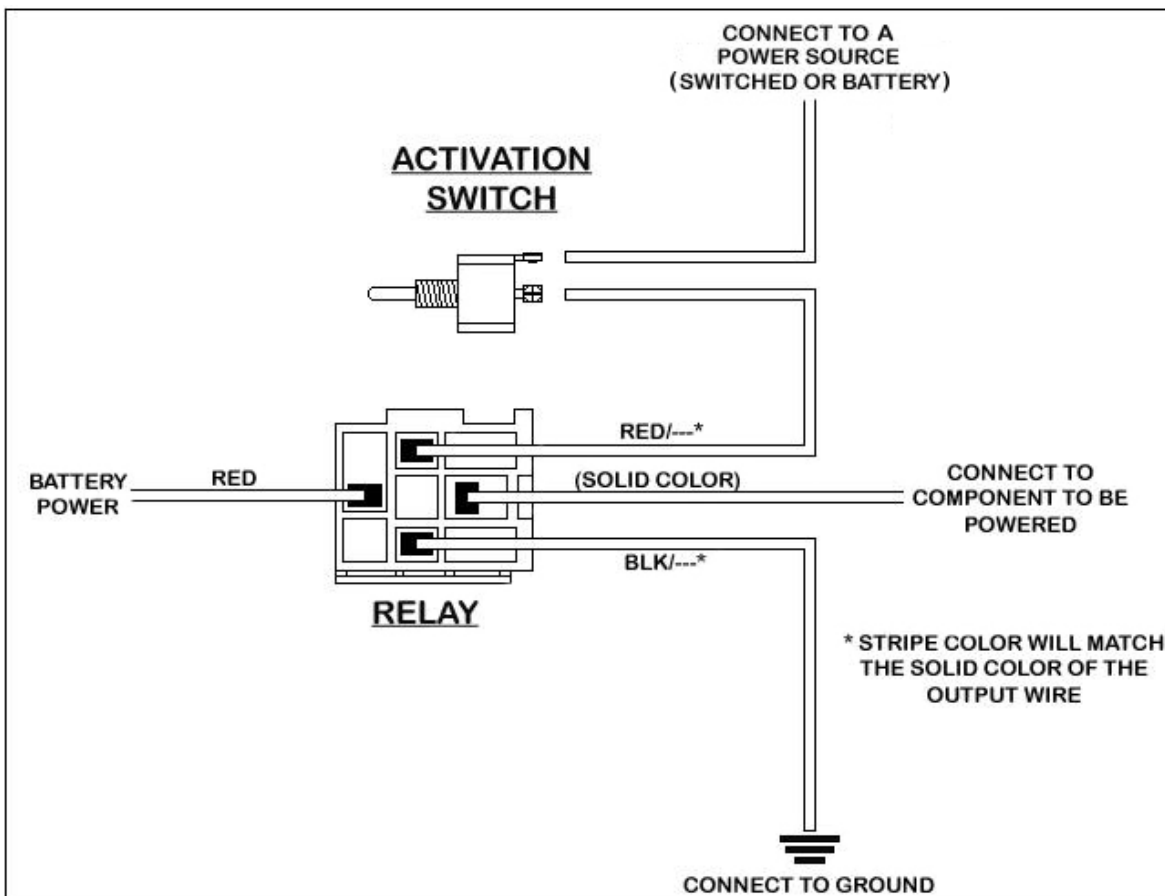
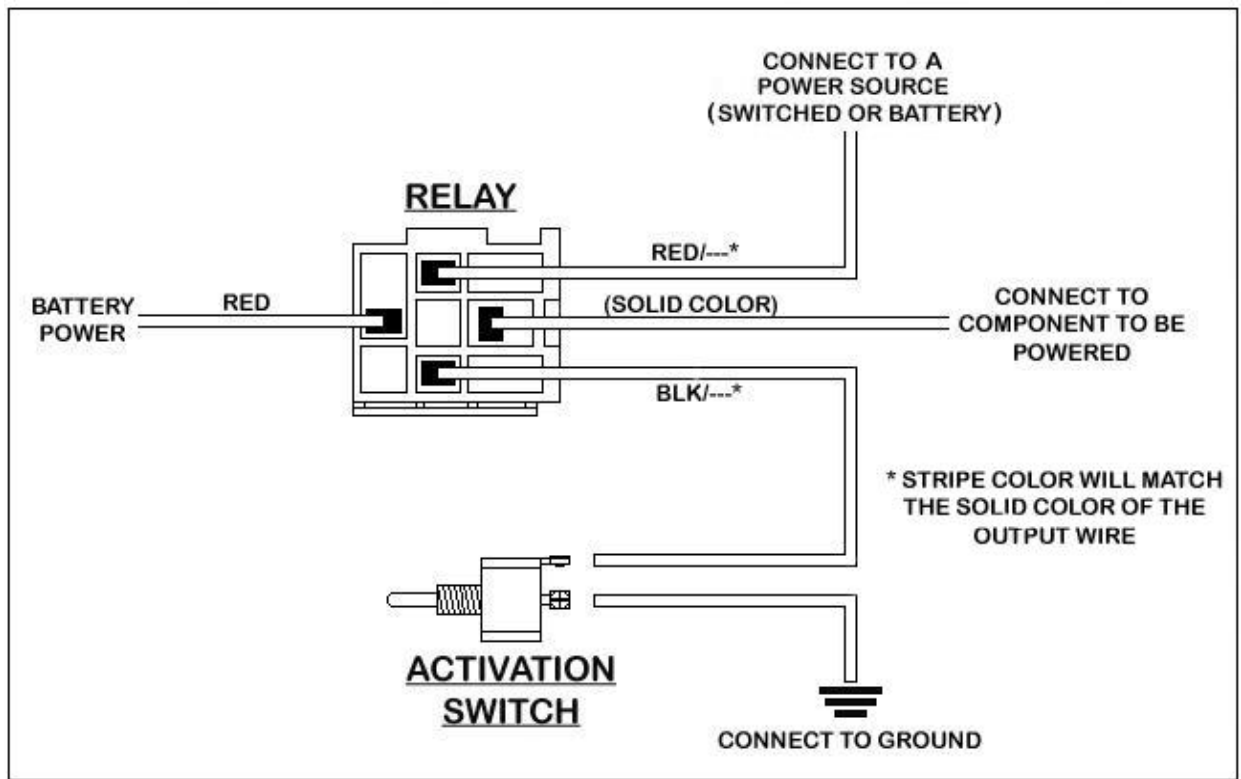

Figure 1: Power Activated Relay
Figure 2: Ground Activation
There are 2 different methods that can be used to activate a relay, power activation or ground activation. With “Power Activation”, the relay is grounded and the power into the relay is on a switch. This power can either be a switched “ignition hot” power source or a battery “constant hot” power source (See **Figure 1**). With “Ground Activation”, power into the relay is run directly from the power source to the relay. Again, this power can either be a switched “ignition hot” power source or a battery “constant hot” power source. The ground wire is connected to the switch (See **Figure 2**).
5. Route and connect the “Activation Power”, RED/GRN, to an appropriate power source. The deciding factor of the power source is if the relay is to be activated with the ignition switch in the “on” position, or if the relay will ever be need to be activated with the ignition in the “off” position. (See **Figure 1 or 2**) according to the method of activation you choose.
6. Route and connect the “Activation Ground”, BLK/GRN, to ground. (See **Figure 1 or 2**) according to the method of activation you choose. If you choose to power activate all of the relays, all ground wires (Black with a stripe) can share the same common ground.